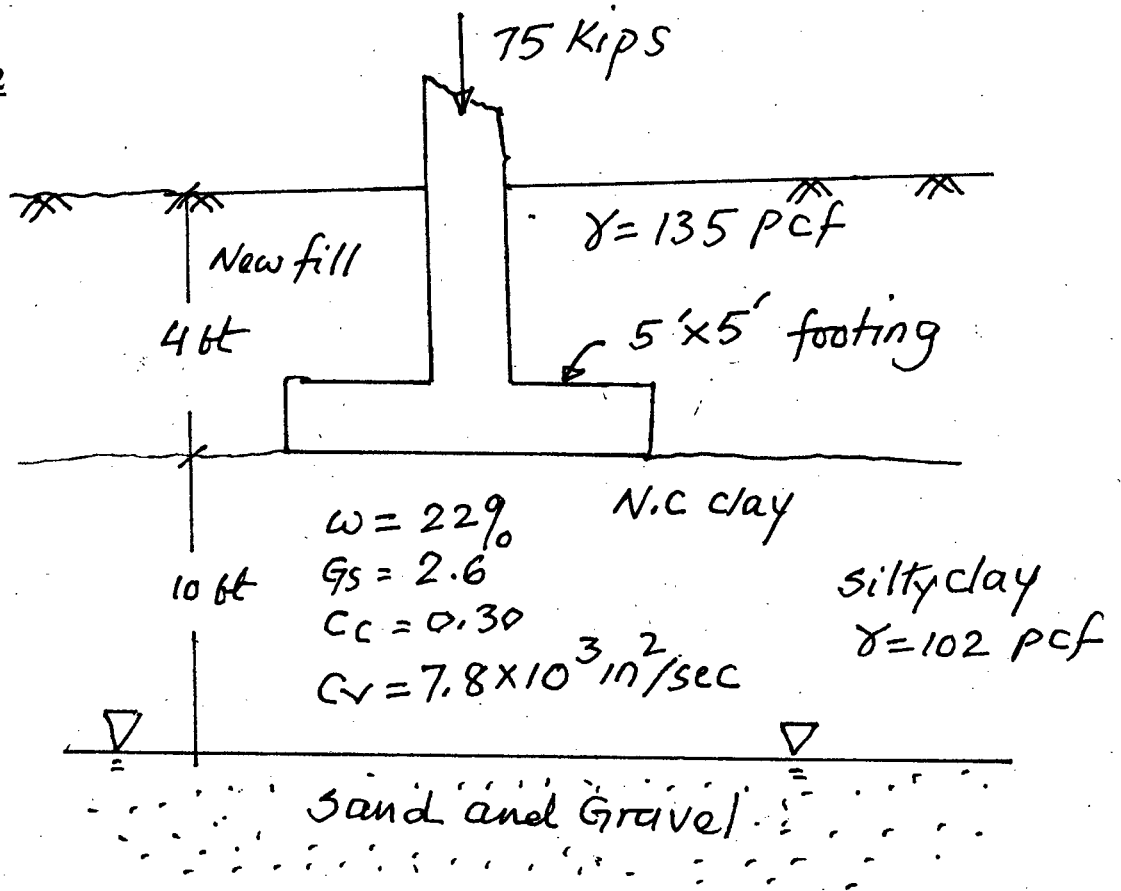

Fig. 5. for Q. NO. 12(b)
(b) A footing is placed on the silty clay stratum, with properties shown in Fig. 5. Then a 4 feet fill layer is added, as shown. Find (15)